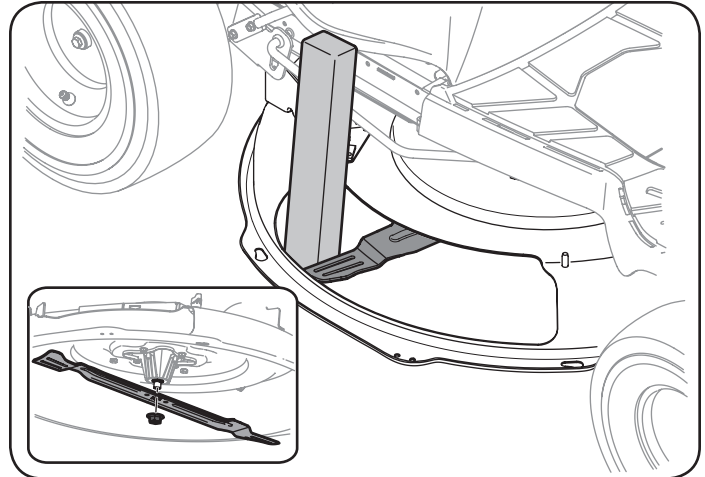

Figure 39
2. Using a block of wood or 2 x 4, insert it into the deck opening and rotate the blade around until it wedges the wood between the deck opening and the cutting blade, as shown in Figure 39.
3. Remove the hex flange nut that secures the blade to the spindle assembly, and remove the blade. See the Inset of Figure 39.